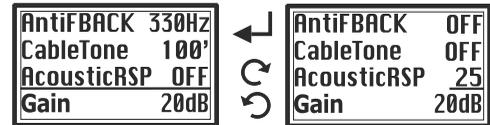

Fig. 14
(F) AcousticRSP ( Acoustic Response ) function, Fig. 14: